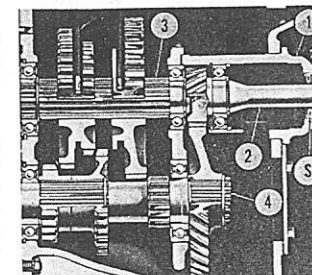
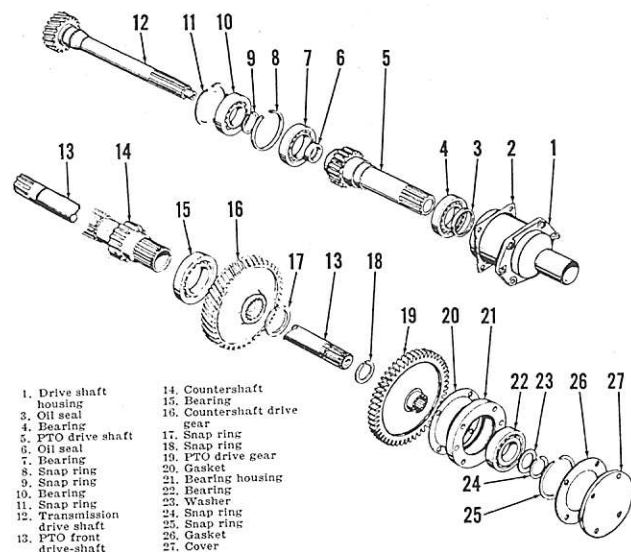

Fig. 211—Cross sectional view of transmission input shaft and gears used on Model MF135 Special with single clutch.
Fig. 212—Exploded view of transmission input shafts and gears used on dual clutch models without "Multipower" transmission.
177. REMOVE AND REINSTALL. On Model MF135 Special tractor with single clutch, the main drive shaft, gear and housing assembly can be removed from the front after separating clutch housing from engine as outlined in paragraph 167; then removing release bearing and linkage. Refer to Fig. 211 for cross sectional view.
With clutch release linkage disassembled and transmission housing or hydraulic pump removed, refer to Fig. 212 and proceed as follows:
178. OVERHAUL. To disassemble the removed clutch shaft and associated parts, unseat snap ring (11—Fig. 212) and bump transmission drive shaft (12) and bearing (10) rearward out of housing (1). On single clutch models, seal (S—Fig. 211) can be renewed at this time. Install the seal with lip to the rear.
On dual clutch models, unseat and remove snap ring (8—Fig. 212) and bump pto clutch shaft (5) and bearings (4 & 7) from housing. Seal (6)